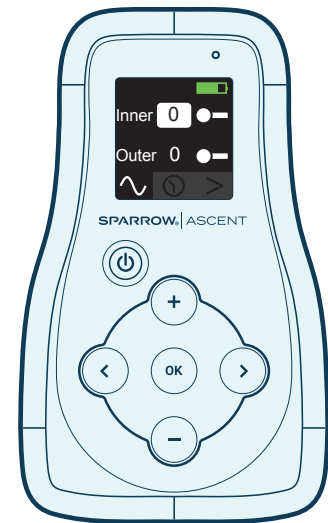

Figure 4: The Inner strength is highlighted
3. Use the directional buttons to highlight the Inner or Outer strength (**Figure 4**). Once highlighted, press the OK button to enable adjustments. The cursor will flash when adjustments are enabled.